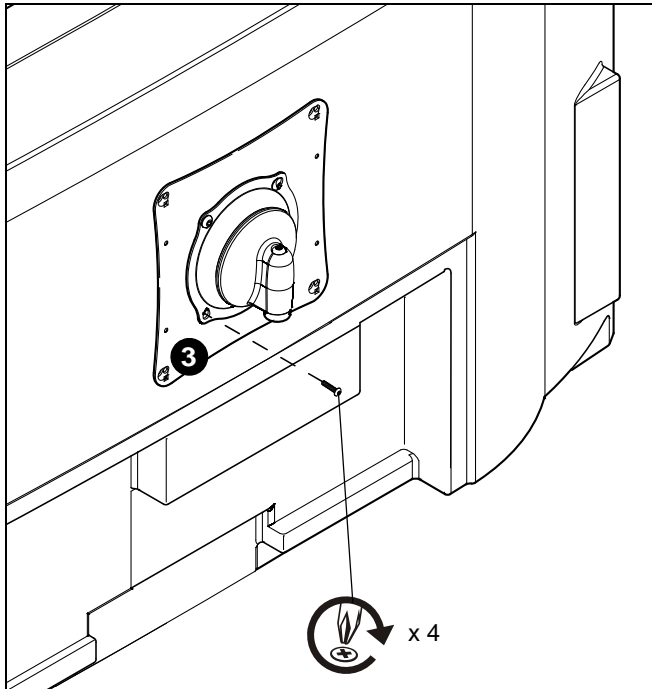

Figure 4
3. Hold display so that display back is against Centris cup and install two Phillips pan head machine screws through lower mounting holes in Centris cup and into lower mounting holes in interface bracket (A). (See Figure 4)